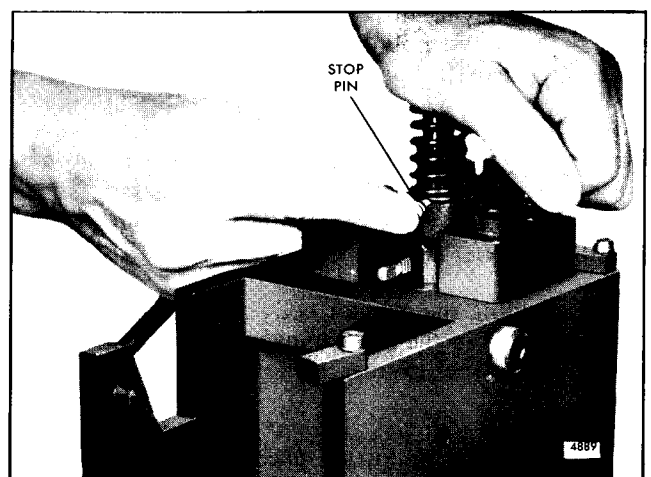

Fig. 35 - Installing Injector Follower Stop Pin
3. Refer to Fig. 35 and place the stop pin on the injector body so that the follower spring rests on the narrow flange of the stop pin. Then align the slot in the follower with the stop pin hole in the injector body. Next align the flat side of the plunger with the slot in the follower. Then insert the free end of the plunger in the injector body. Press down on the follower and at the same time press the stop pin into position. When in place, the spring will hold the stop pin in position.